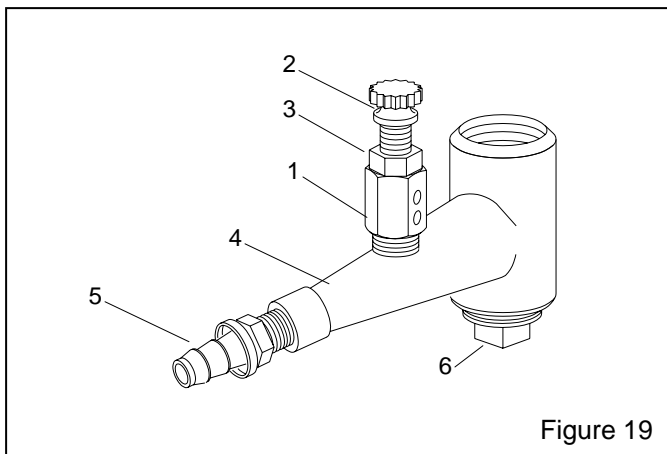

Figure 19
8.5 Metering valve assembly, Figure 19